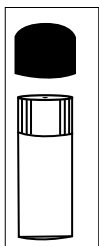

Figure 3A
2. Remove the vinyl cap from the vial to expose the small leak hole as shown in Figure 3A below. **DO NOT UNTWIST THE BLACK CAP FROM THE BOTTLE.**